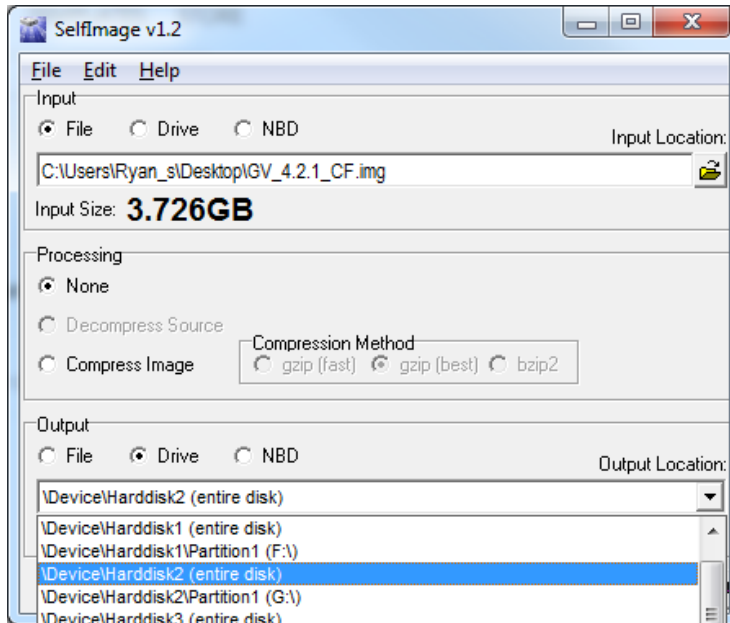

Figure 9: SelfImage
- (b) In SelfImage select the “Input” as “File” and then use the browsing window to locate and select the Nautel provided IMG file you are going to write to the SSD (see Figure 9).
- (c) Under “Processing”, select “None” (see Figure 9).
- (d) Under “Output”, select “Drive” and then choose your “Disk” number as determined in step 4 (d). It is important to ensure you select “Entire Disk” version of the “Disk” number to ensure proper imaging (see Figure 9).